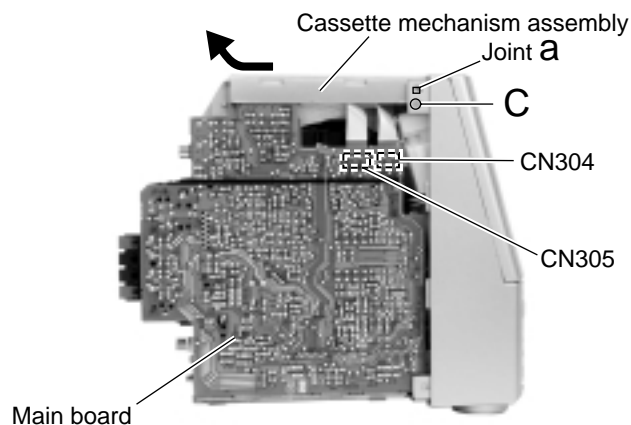

Fig.6
■ Removing the cassette mechanism assembly (See Fig.6 and 7)